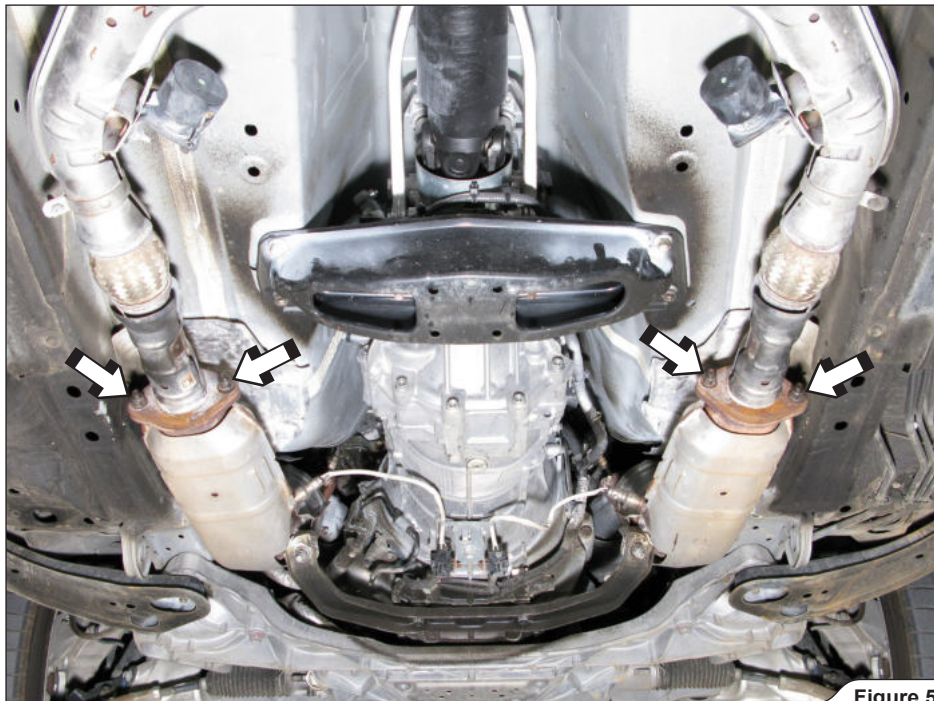

Figure 5
5. **For Evolution only:** unscrew the marked nuts and remove the front pipes off the vehicle (**Figure 5**).